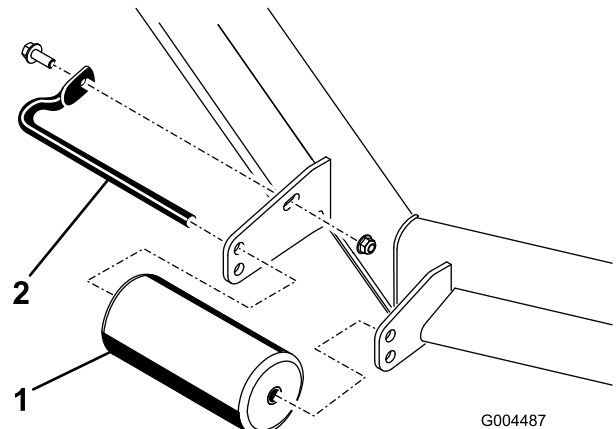
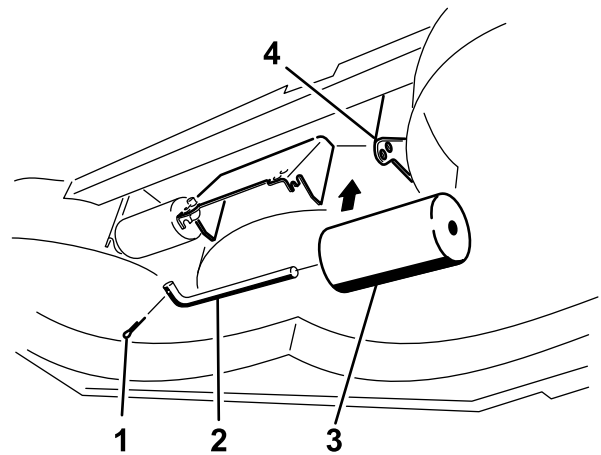

Figure 20
Figure 24
4. Remove the fasteners securing each roller on your mower deck and move the rollers up or down as desired; refer to Figure 20 through Figure 24 as applicable for your mower.